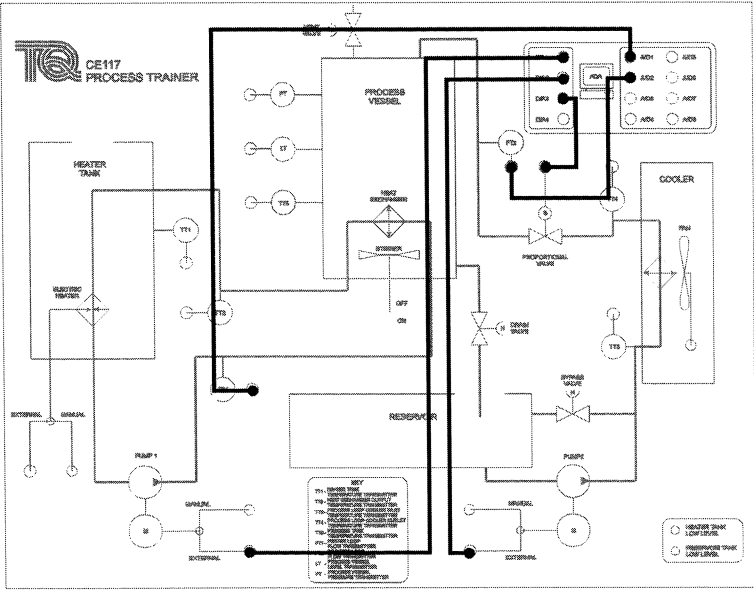

Figure 80 Connections for Experiment 9
- 1) Start the CE2000 software and load file 'exp9-1.ict'. Connect the CE117 Mimic Panel as shown in Figure 80.